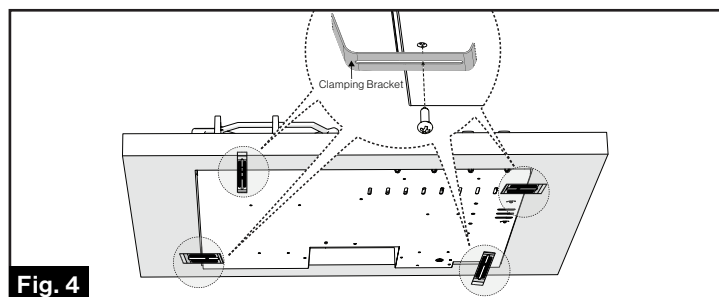

Fig. 4
- Insert the clamping brackets into their relative housings on the Cooktop. Lock then in place with the screws M4 x 10mm. (Fig. 4)